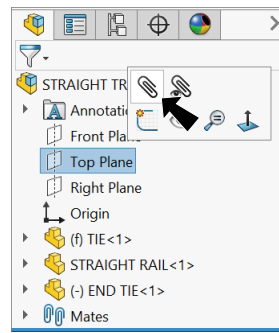

Fig. 14
Step 1. Click **Top Plane**  in the Feature Manager and **Mate**  on the context toolbar, **Fig. 14**.